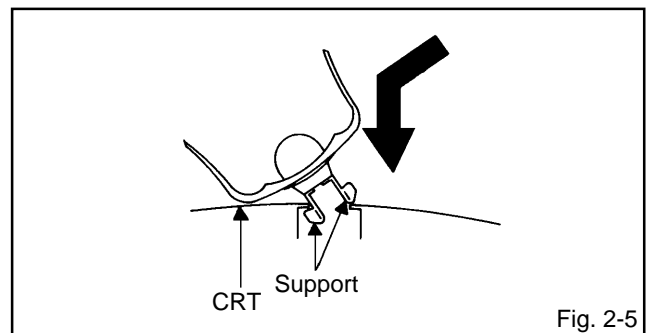

Fig. 2-5
4. Insert one end of the Anode Support into the anode button, then the other as shown in **Fig. 2-5.**